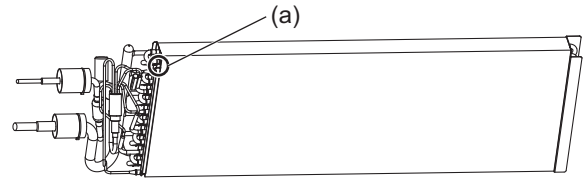

Fig.21
- In order to attach and fix the heat exchanger, insert the hook (a) on the heat exchanger (Fig. 21) to (b) (Fig. 22).